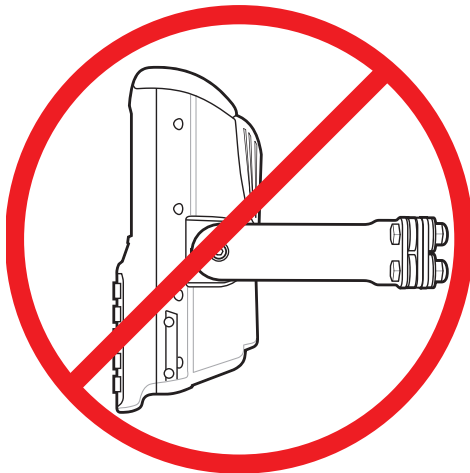

Figure 2-6 *Incorrect Mounting*
- Do not mount the vehicle computer with the mounting bracket perpendicular to a wall as shown in Figure 2-6.
4. Place a fuse and fuse holder in-line of the red, black and yellow wires approximately four inches from the cable end, as shown in Figure 2-6 on page 2-6.
6. Place a fuse and fuse holder in-line of the red and black wires approximately four inches from the cable end, as shown in Figure 2-6 on page 2-6.